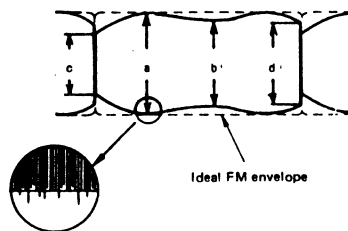

Fig. 2-54 FM waveform (max. output)
- 5) When the maximum video FM waveform, confirm the audio FM waveform (Fig. 2-54) obtained that: